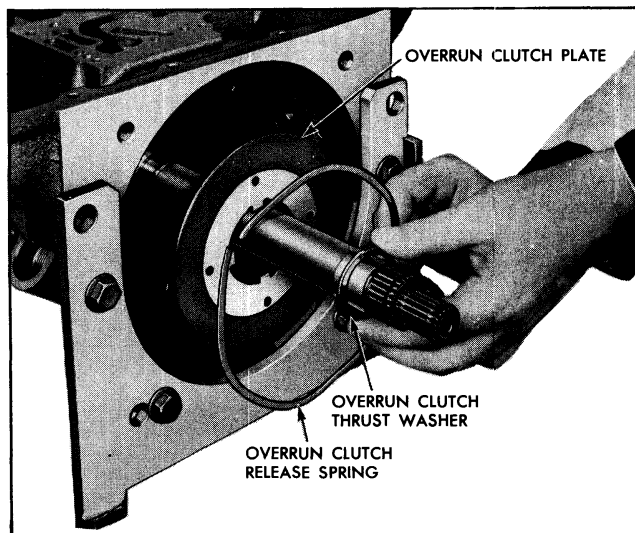

Fig. 7D-56 Overrun Clutch Plate and Release Spring
8. Remove overrun clutch plate and bronze thrust washer (Fig. 7D-56).